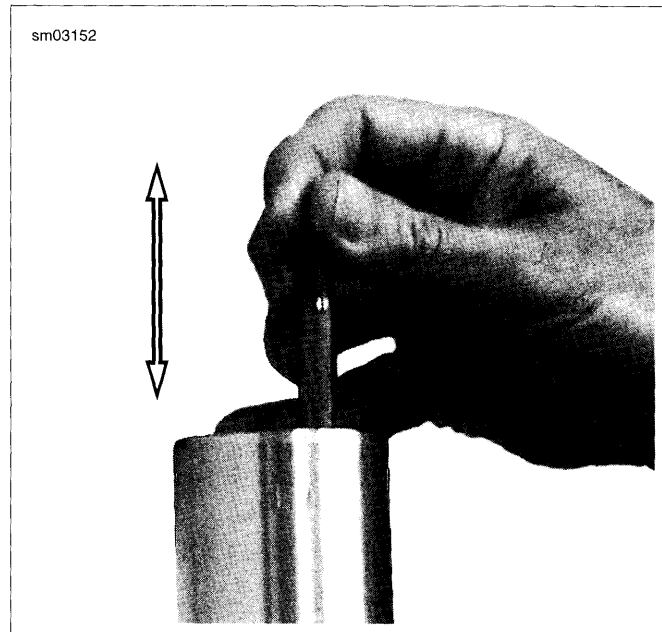

Figure 2-170. Pump Cartridge
3. See Figure 2-170. Slowly pump cartridge 8 to 10 times to exhaust air from assembly.